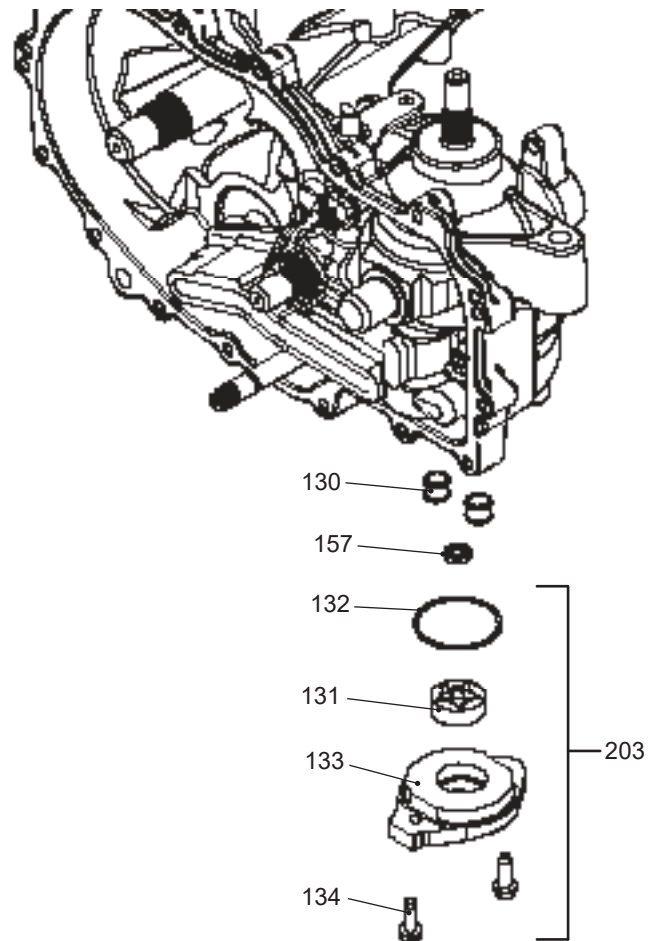

Figure 22b, Charge Pump
2. Remove the hex head screws (134), charge pump cover (133), gerotor assembly (131), and the O-ring (132). At this point remove the connecting tubes (130) and lip seal (157) *only if the center section will be removed.* A pick type tool can be used to remove the connection tubes and seal. Refer to figure 22b.